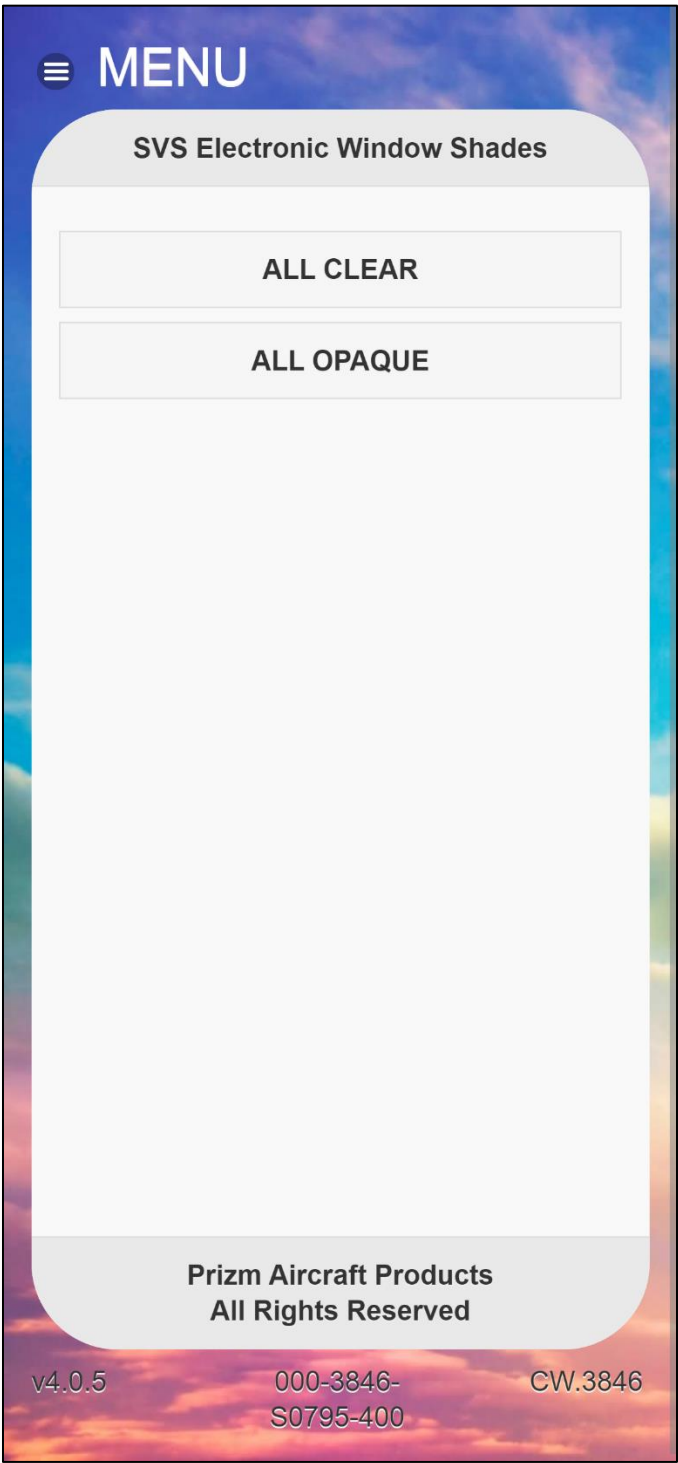

Figure 8-6 – Prizm App EWS Control Menu
- 8.7.6.6** Utilizing the Opaque & Clear buttons on the Window Page (Figure 8-6), cycle windows from Opaque to clear, verify ALL windows sequence as selected.